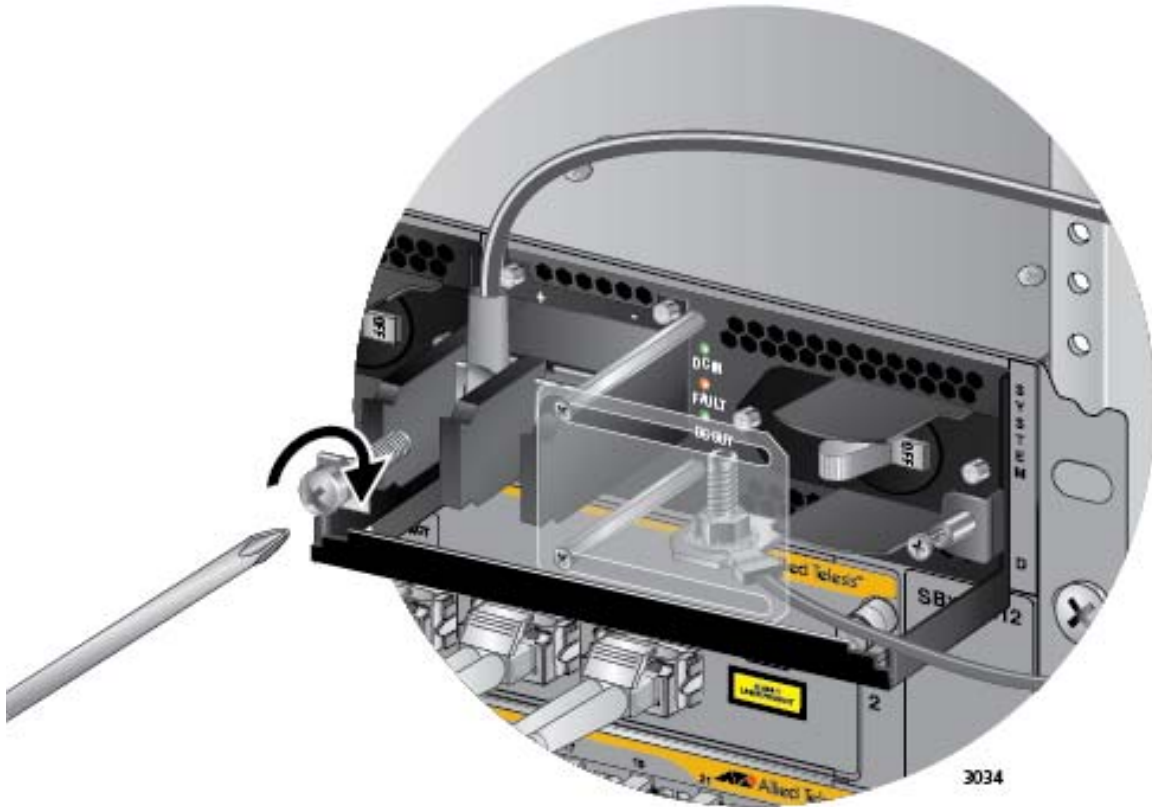

Figure 125. Connecting the Positive (+) Power Wire with a Straight Terminal
6. With a #3 Phillips-head screwdriver, connect the positive (+) power lead wire to the positive terminal on the power supply, with one of the terminal screws removed in the previous step. The positive terminal is on the left. You may attach the terminals with the wires either above or below the terminal block. Figure 125 on page 192 shows the positive wire above the terminal block.